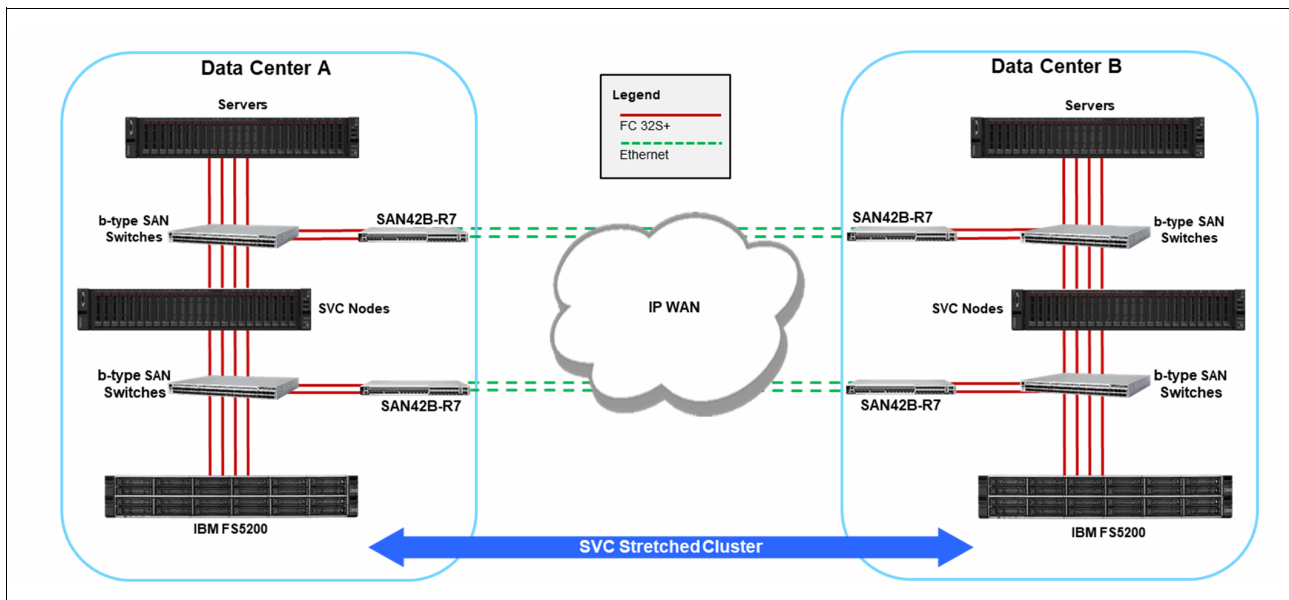

Figure 4-5 IBM SVC Stretched Cluster and IBM b-type SAN Extension
Figure 4-5 shows an example topology that uses redundant fabrics, a best practice that is not unique to Stretched Clusters or IBM HyperSwap. However, what is unique to these IBM Spectrum Virtualize cluster configurations is a further subdivision of each of the redundant fabrics into public and private fabrics. This subdivision can be done by using Virtual Fabrics (VF) for the public and private SANs. However, ensure that the public and private fabrics traverse dedicated inter-switch links (ISLs).